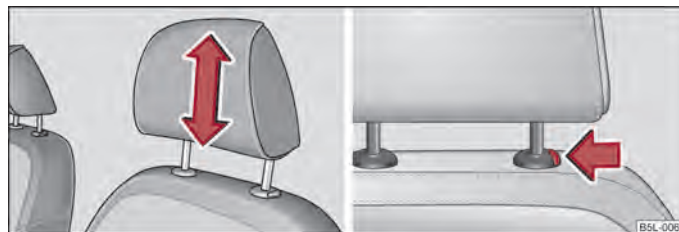

Fig. 47 Head restraint: Adjusting/pulling out
- Grasp the side of the head restraint with both hands and push it in upward direction as desired ⇒ fig. 47 - left.
- Move the head restraint downwards if required by pressing and holding the safety button with one hand ⇒ fig. 47 - right and by pressing with the other hand the head restraint downwards.
- Press the locking button in the direction of arrow ⇒ fig. 47 - right and pull the head restraint out.